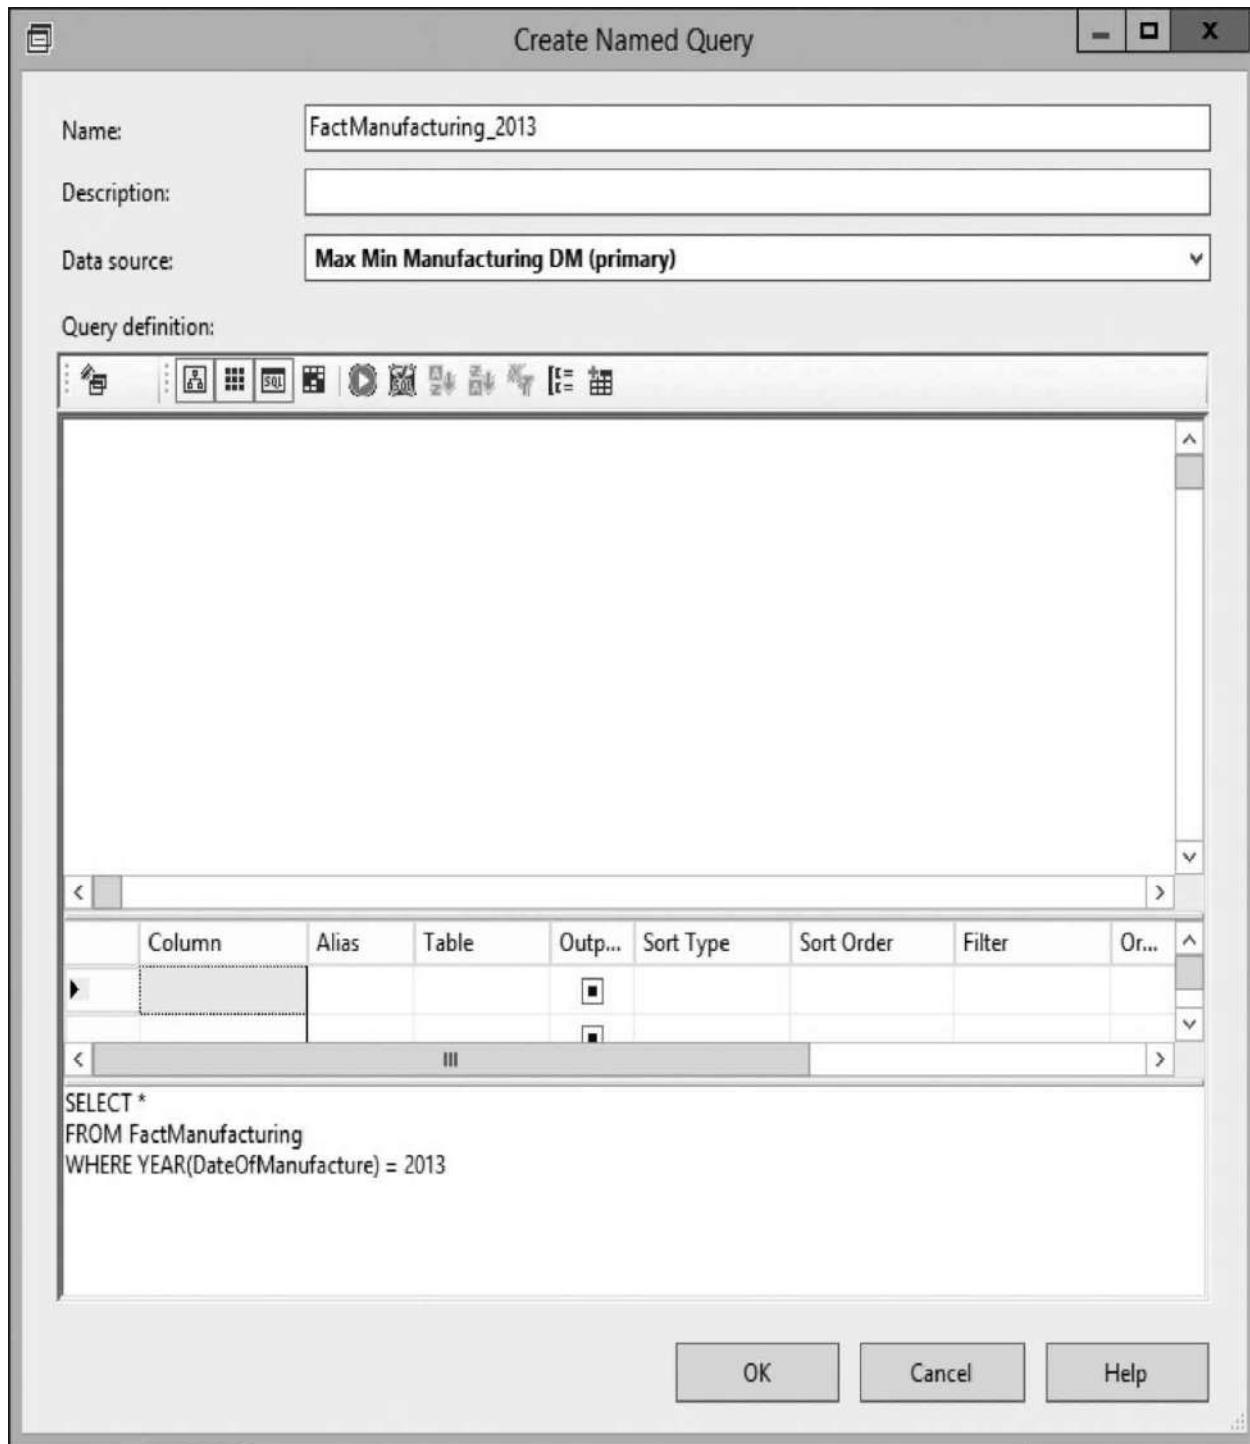

**Figure 12-28** Creating a new named query
4. Right-click any place there isn't a table in the data source diagram area. Select New Named Query from the context menu. The Create Named Query dialog box appears, as shown in Figure 12-28.